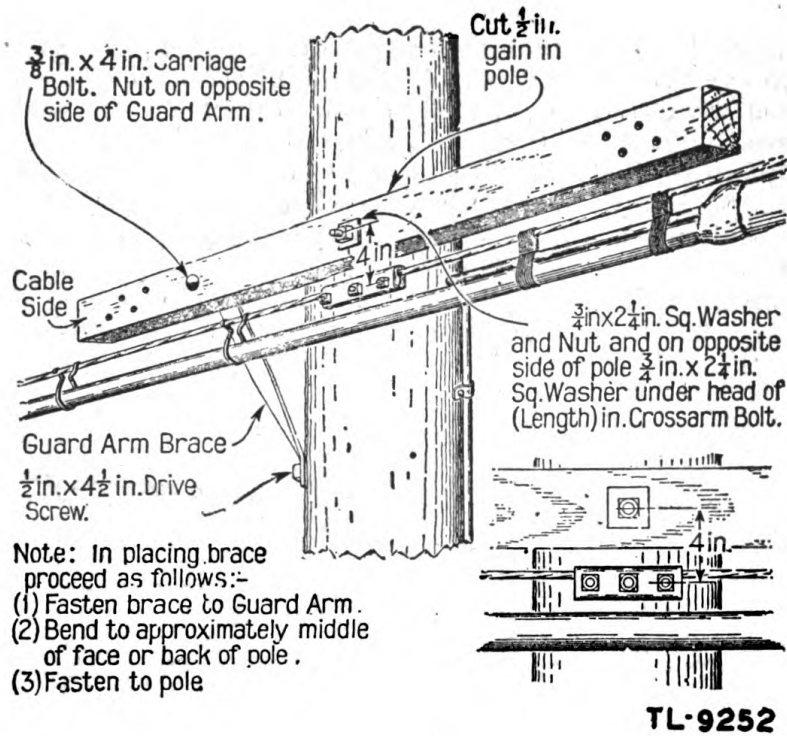

Figure 60. Installing guardarms.
b. INSTALLING GUARDARMS. Install guardarms as shown in figure 60.